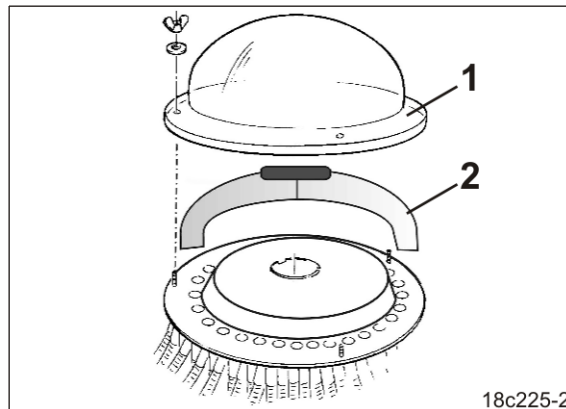

Fig. 200
1. Remove the outer distributor cover (Fig. 200/1).
2. Fit the insert (Fig. 200/2) so that the seed supply of the respective coulter is interrupted.